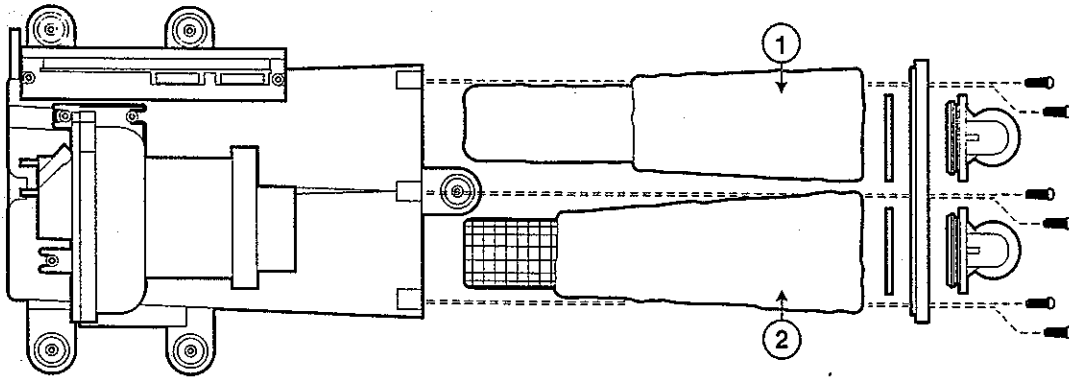

Figure 5-12. Muffler/Filter Core Assembly
- 4 Referring to Figure 5-12, remove the six (6) screws holding the end caps on the muffler tube and remove the caps and elbows as an assembly
- 6 Referring to Figure 5-12, insert t the element with the filter into the tube using a clockwise insertion motion.